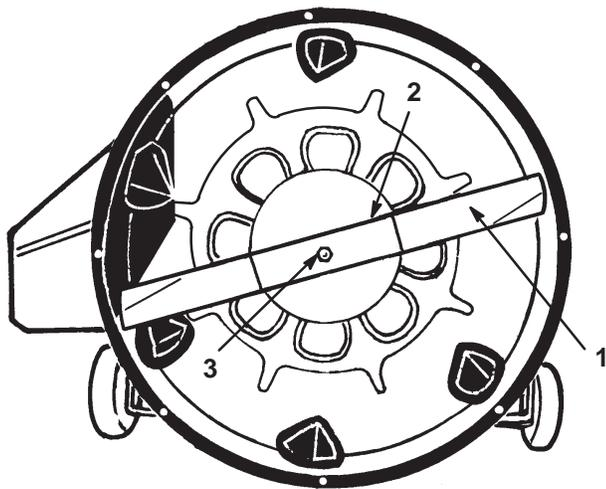

Figure 24
4. Grasp end of blade using a rag or thickly padded glove; then remove blade bolt, curved washer, blade stiffener and blade (Fig. 24).
- 7. In sequence, install blade, blade stiffener, curved washer and blade bolt (Fig. 24). The concave side of the curved washer must point toward the blade. Tighten blade bolt to 45–60 ft-lb (61–81 Nm)